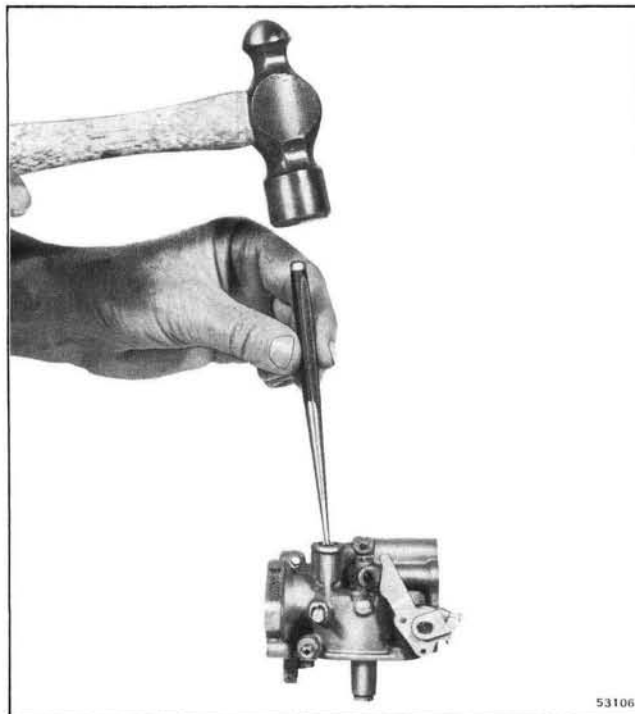

Figure 3-18. Seating Core Plug
b. If leakage occurs at a core plug area, a smart tap with a hammer and flat end punch in the center of the core plug will normally correct this condition. See Figure 3-18.